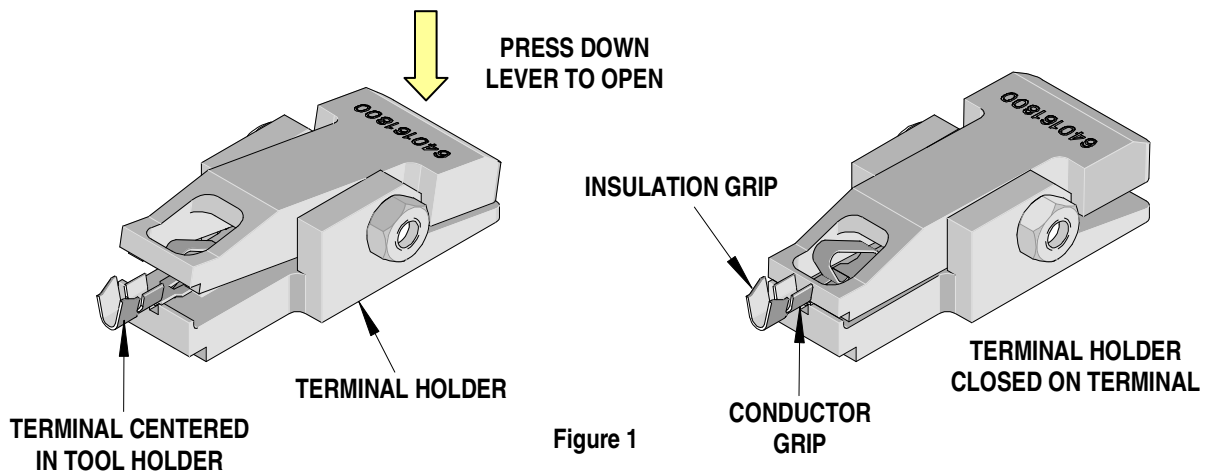

Figure 1
3. Release the lever to hold the terminal in place. See Figure 1.